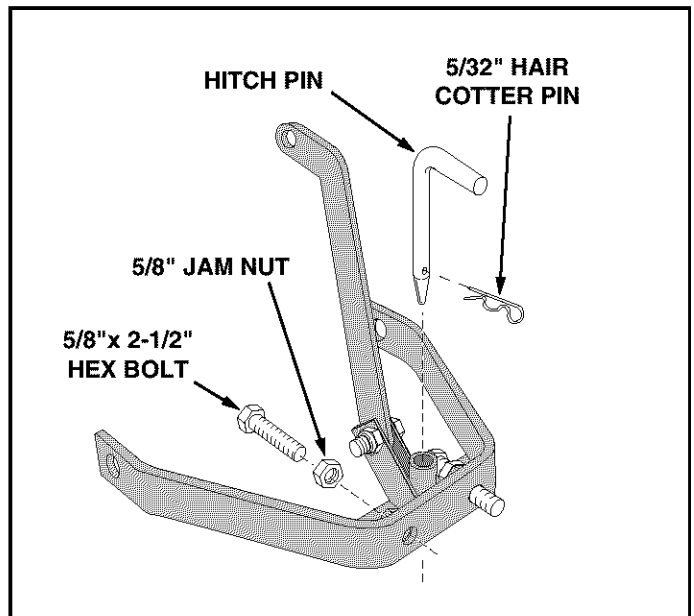

FIGURE 6
- Assemble the two 5/8" jam nuts halfway onto the two 5/8" x 2-1/2" hex bolts. Screw the bolts into the nuts that are welded to the Sleeve Hitch Lift Assembly. Snug the jam nuts against the welded nuts. See figure 6.
- Install the hitch pin in the sleeve hitch and secure it with a 5/32" hair cotter pin. See figure 6.